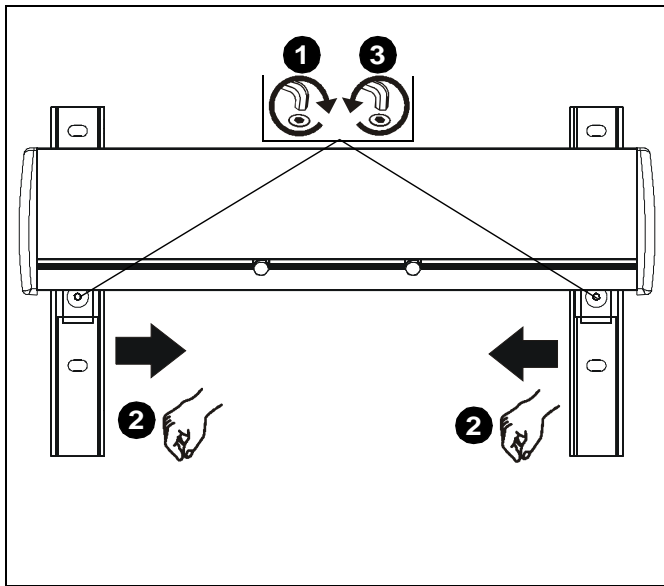

Figure 36
1. Loosen two flat head cap screws on wall bracket. (See Figure 36)
2. Slide wall brackets to corresponding width of studs. (See Figure 36)
3. Tighten two flat head cap screws on wall bracket. (See Figure 36)